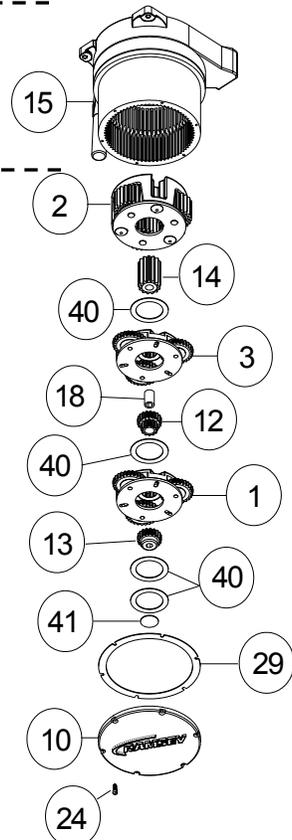
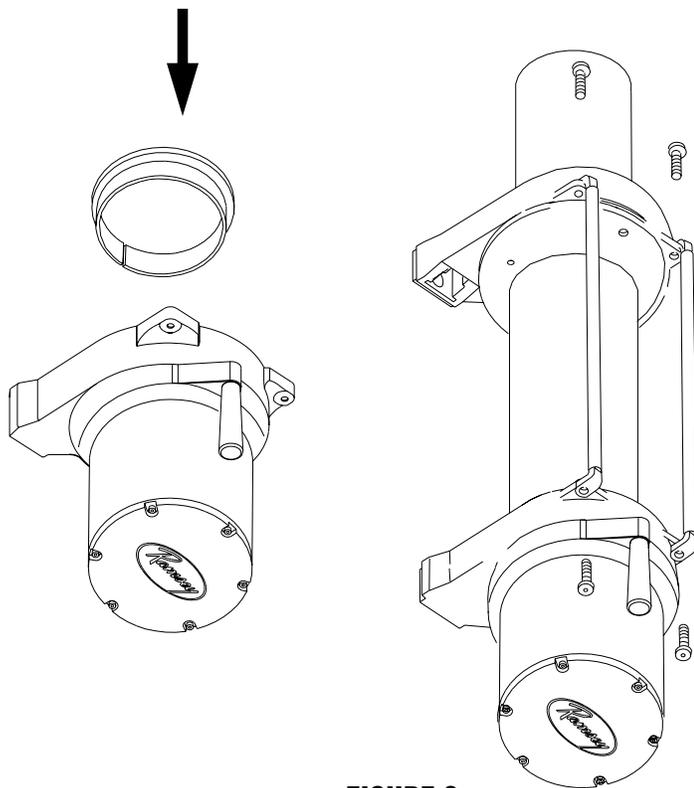

FIGURE 7
FIGURE 9
3. Gently lift the Gear Housing assembly, working the gears, bushings, etc. that are inside the Gear Housing out so that they are left stacked on the workbench. See Figure 7.
4. Turn the Gear Housing assembly over and set on workbench. Remove the Retainer (item #38) by removing six cap-screws (item #22) from Gear End Bearing (item 16). Once the retainer is removed, the Ring Gear (items #15 & 31), Cam Ring (item #36), and Locking Ring (item #35) can be lifted off the end bearing.
8. Reassemble Gear Housing as shown in Figure 7. Make sure locking ring is positioned with stop post at marked location. The capscrews (item #22) for the retainer should be tightened to 40-45 in-lbs. **Do not over-tighten.**
9. Place Gear Housing over the stacked gears, etc. that you removed in step 3. Gently work the housing over the stack, turning it as needed to mesh the planetary gears with the ring gear in the housing. Once they are all in the housing, flip the assembly over. Align the Gear Housing Cover and gasket with the holes in the ring gear. Replace the (6) capscrews that hold the Gear Housing Cover onto the Gear Housing. Tighten securely.
11. Turn the Gear Housing over and set it on the work bench with the Gear Housing Cover down. See Figure 9.
13. Place the tiebars on the motor end and gear end and fasten using (4) screws. Tighten securely.